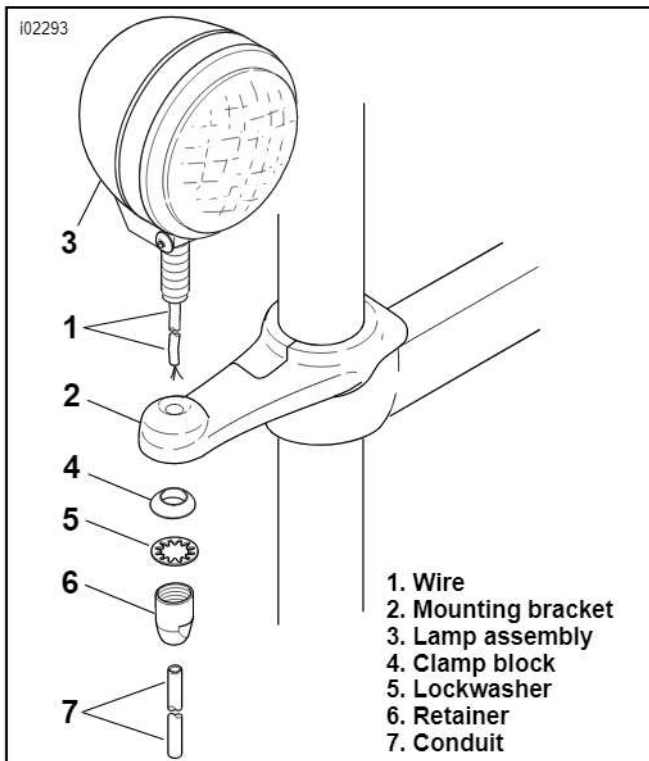

Figure 2. Install the Lamps (Right-Hand Side Shown)
5. See Figure 2. Route the lamp wire (1) through the hole in the mounting bracket (2), and secure the lamp (3) to the bracket using a clamp block (4), lockwasher (5) and retainer (6) from the kit.